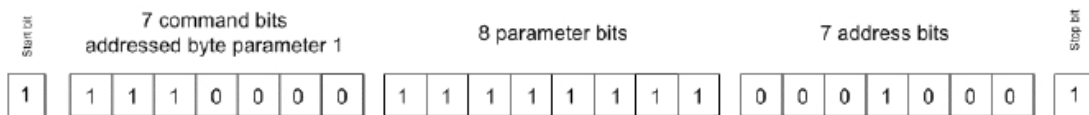

Figure 5: Addressed byte parameter 1 from individual load address 8 becomes 255
The control signal of figure 5 is three bytes long and a parameter is send to the addressed load controller. Parameter byte (255) is send to addressed load controller (8) and is changing parameter 1 (addressed byte parameter 1 transfer).